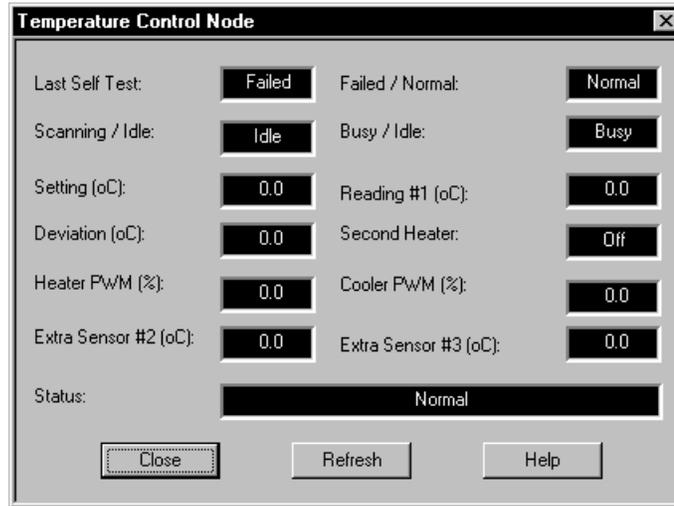

Figure 7-17. Temperature Control Node.
**Temperature Control Node**—This icon brings up the Temperature Control Node window (figure 7-17), which displays the status of the TMPR board.